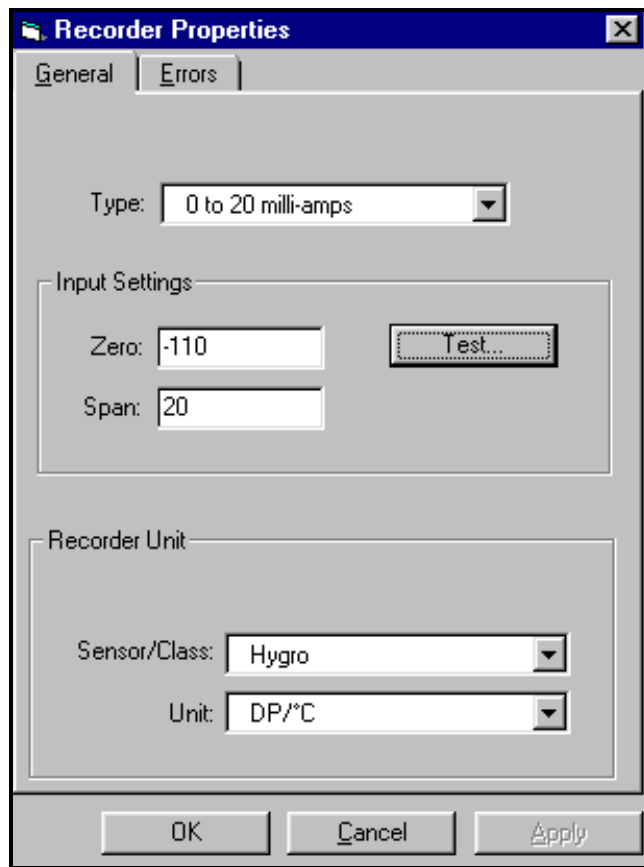

Figure 52: Recorder Programming Window
2. From the channel menu, click on the “*Recorders*” option, and then on “*Recorder A*” or “*Recorder B*.” The Recorder Properties window appears, as shown in Figure 52.
1. To test the recorder outputs, click on the [Test] button in the “*Recorder Properties*” window (see Figure 52 on page 91). A message appears: “This will suspend Recorder #[X] on Channel [X]. Are you sure you want to test this recorder?” Click on [OK] to continue.